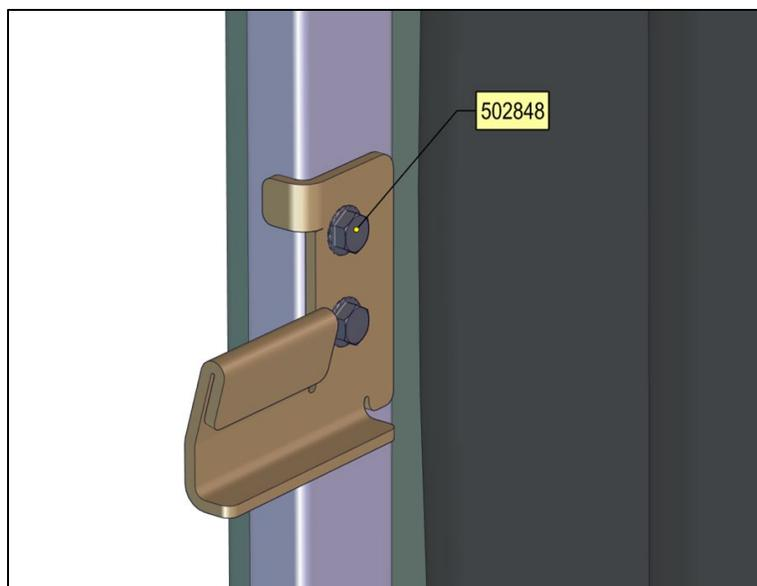

FIGURE 2
2. Secure the latch stop using two thread cutting screws #502848 (torque 10 lb-ft) (Figure 2). Apply torque seal mark.